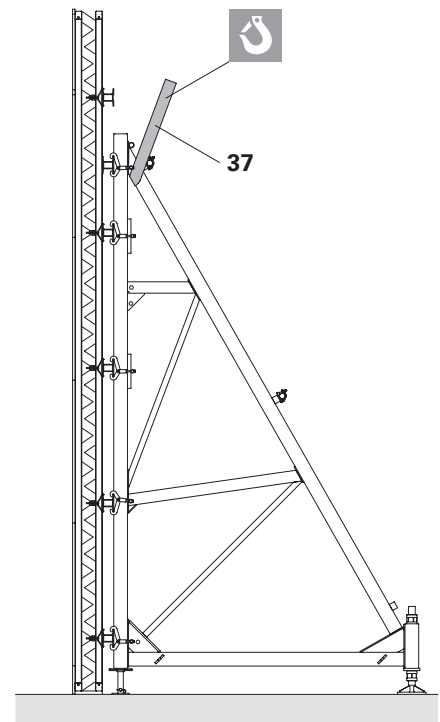

Fig. C2.02
Wrap textile strap (37) around the brace frame and attach to the crane. (Fig. C2.02)